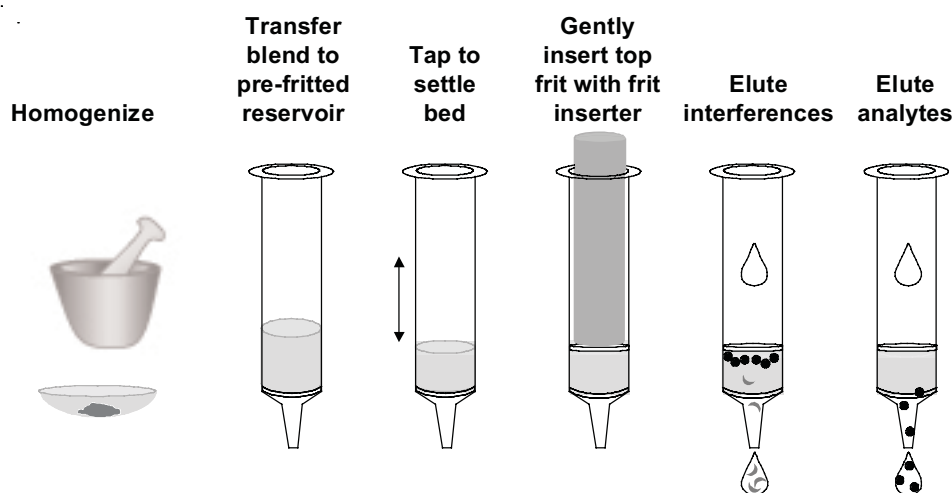

Figure 1. The MSDS process
ISOLUTE MSPD C18 and MSPD C18(EC) are both suitable for the extraction of a variety of organic analytes such as drugs, steroids and pesticides from complex matrices. The additional polar silanol interactions available with the non-encapped C18 sorbent may give higher recoveries in the extraction of basic analytes. (See **Figure 1** for illustration at MSDS process).